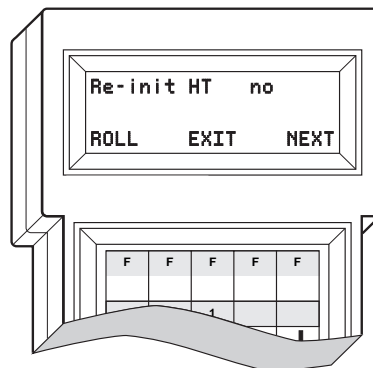

Figure 11. HHT Setup Display
1. Plug the HHT into the DIAG. connector. Enable the setup mode by pressing the **SHIFT**, **CTRL** and **SPACE** keys in sequence. The display shown in Figure 11 appears.